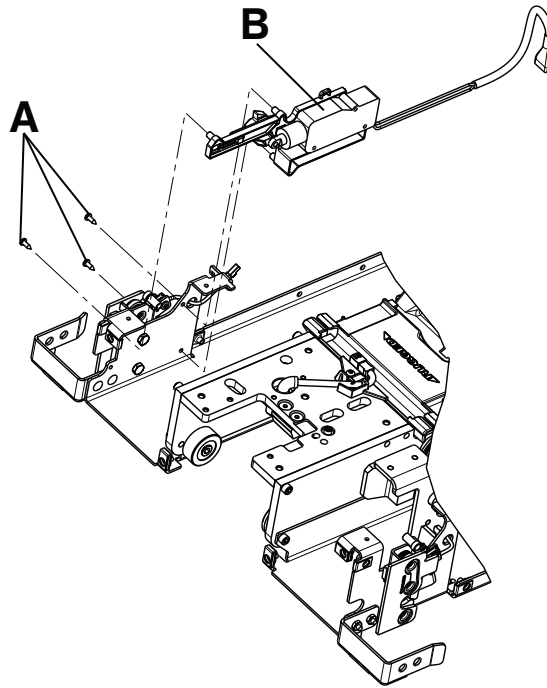

Figure 12 – Trolley actuator assembly
2. Using a T20 Torx driver, remove the three delta screws (A) that secure the trolley actuator (B) to the trolley frame (Figure 12).